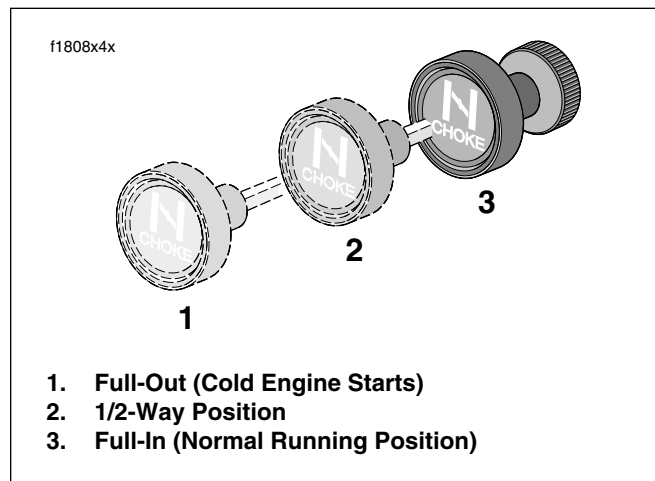

Figure 4-2. Set the Enrichener Knob
1. After initial 15-30 second warm-up, ride for 3 minutes or 2 miles (3.2 km) with enrichener knob in full out position. See Figure 4-2.
1. After the initial 15-30 second warm-up, ride for 1 minute or 1/2 mile (0.8 km) with enrichener knob in full out position. See Figure 4-2.